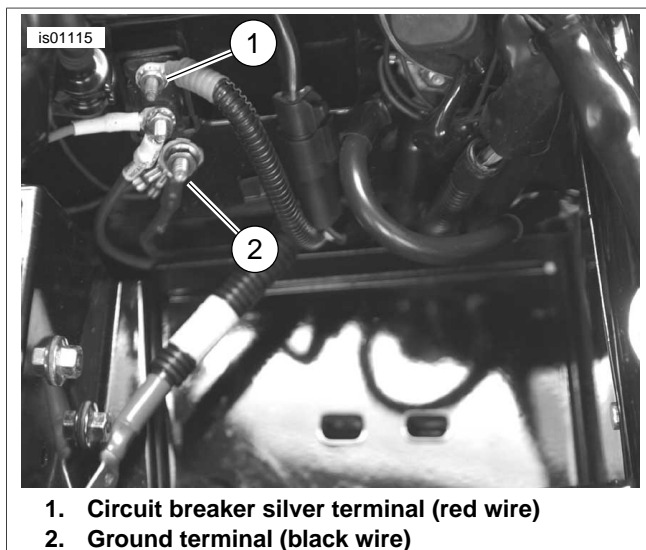

Figure 3. Connections (With Battery Removed) - 2003 or Earlier Touring Models (2003 FLHTCU shown)
3. See Figure 3. Cut the black wire on the satellite receiver wire harness to easily reach the ground stud (2) located below the circuit breaker in the battery well under the seat.